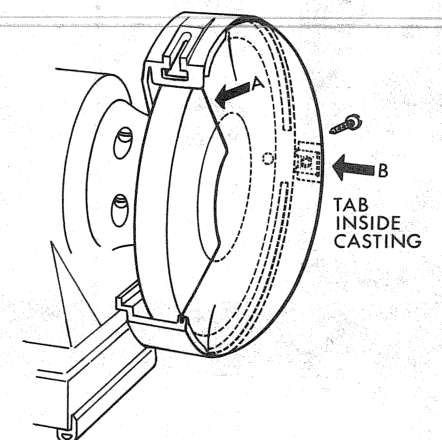

FIGURE 7
7. Be sure to replace end covers (see Figure 7). Slide cover in direction of arrow "A" into upper and lower grooves in wheel guard. Push cover toward wheel (arrow "B") with threaded tab inside wheel guard. Replace screw.